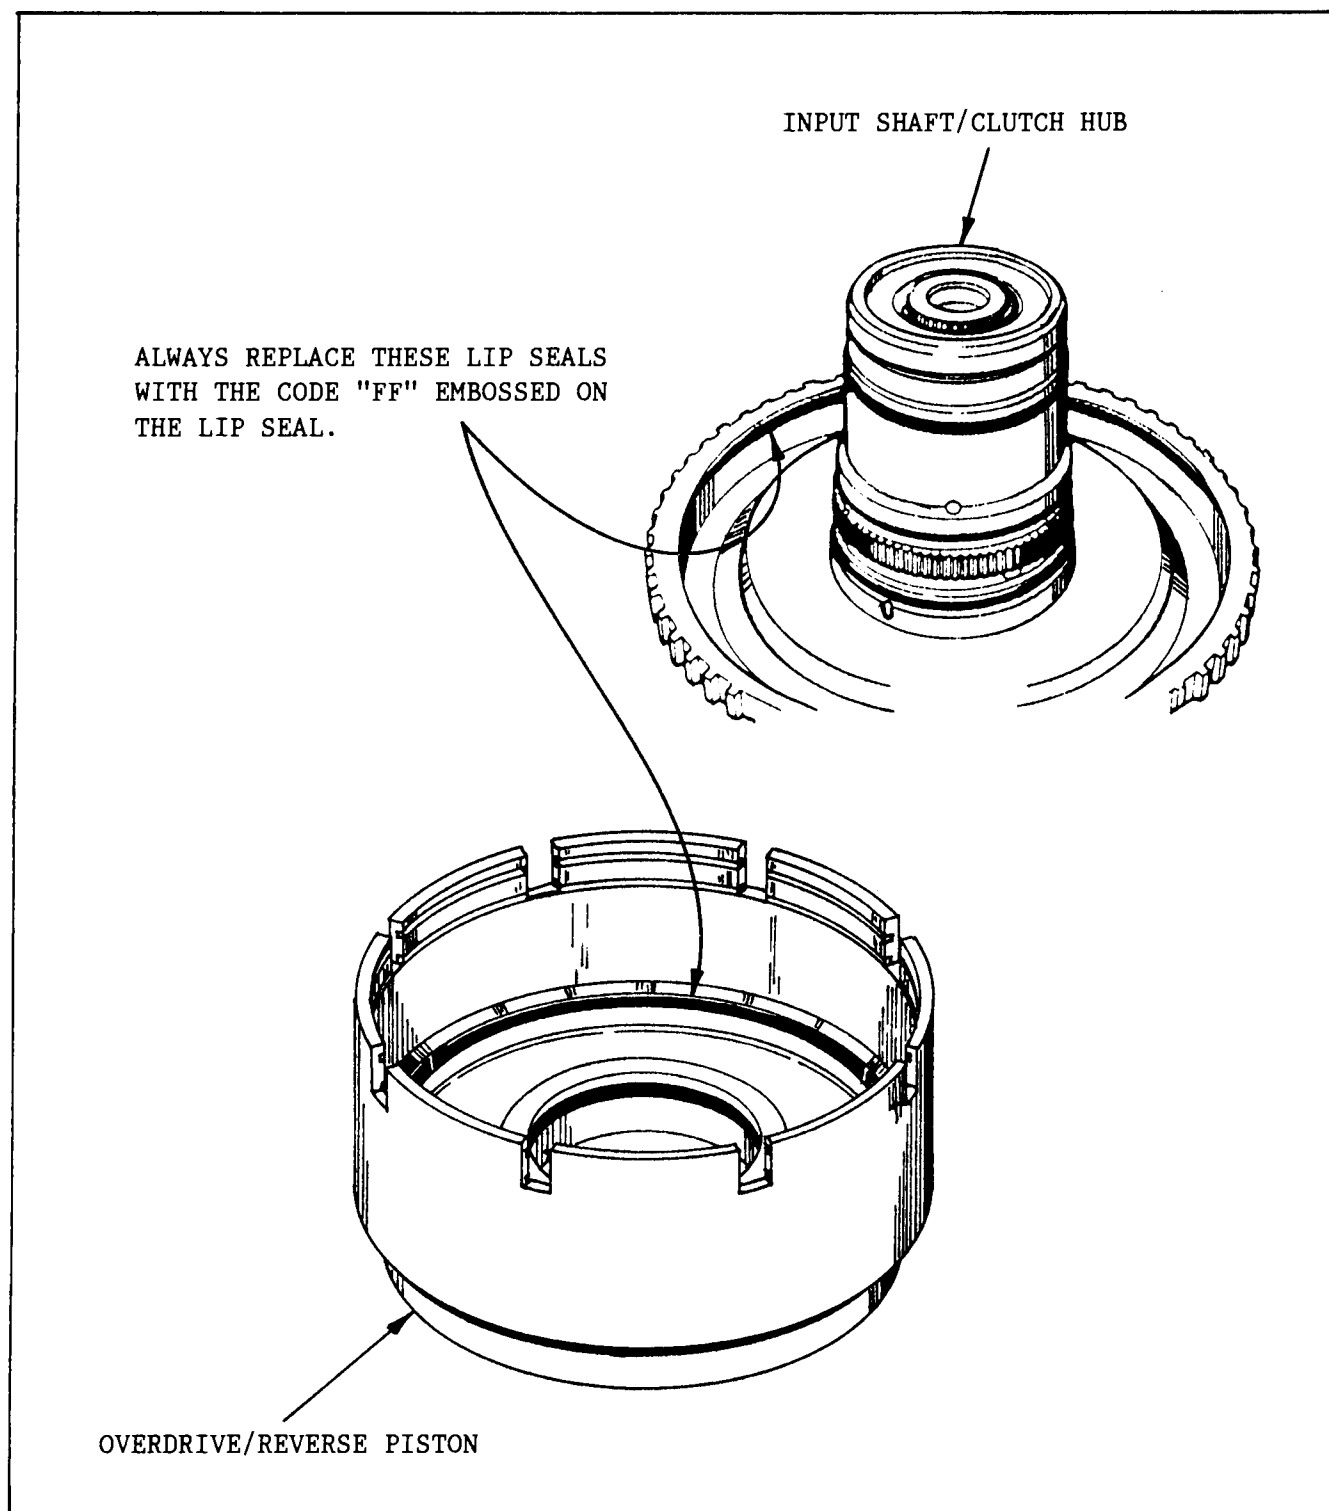

Figure 5
CHANGE: The lip seals in the Overdrive/Reverse Clutch Piston and the Input Shaft/Clutch Hub are now replaced with lip seals made of different material (See Figure 5).
- (1) OD/REVERSE PISTON LIP SEAL - No dimensional changes, but the material changes, and the new lip seals can be identified by the code "FF" embossed into the seal. The old lip seal is embossed with the code "IPC", and should not be used (See Figure 5).
- (2) INPUT CLUTCH HUB OUTER LIP SEAL - No dimensional changes, but the material changes, and the new lip seals can be identified by the code "FF" embossed into the seal. The old lip seal is embossed with the code "IPC", and should not be used (See Figure 5).